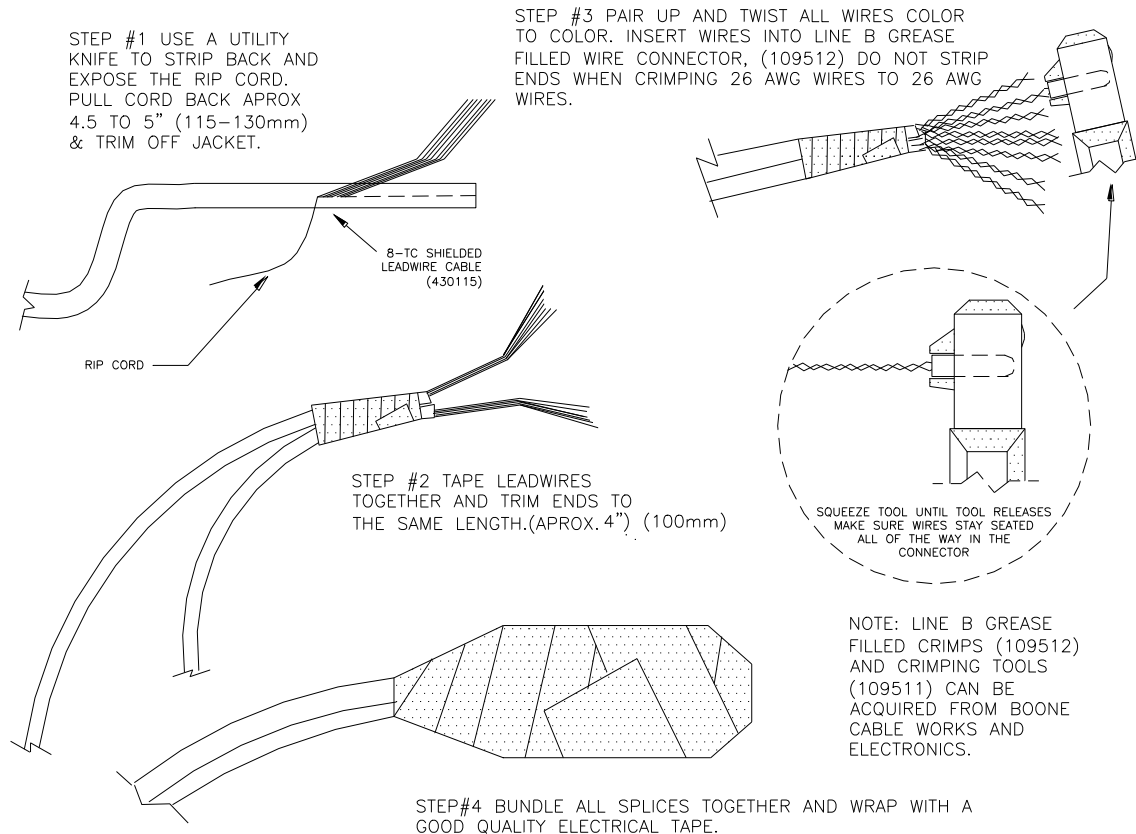

Figure 16. Cable Splicing with Crimps
6.5.2. Crimps All wire-to-wire splices should be made with Line B grease filled wire connectors. These connectors and the proper crimping tool for installation are available from BOONE CABLE WORKS AND ELECTRONICS and can be ordered with the system. These crimps offer the highest degree of reliability, insulation, and moisture protection of any we have found. They also have the added benefit of not requiring the stripping of the insulation from the individual conductors when connecting two 26 AWG wires. The crimps are insulated outside and are grease filled inside. The grease retards corrosion and resists water, thus making a good conductive splice that is well insulated. After the splice bundle is completed, several wraps of good quality electrical tape will provide abrasion resistance, and make for a neat looking splice. Please refer to the detailed splicing section, and Figure 16 for specific steps related to making wire connections.